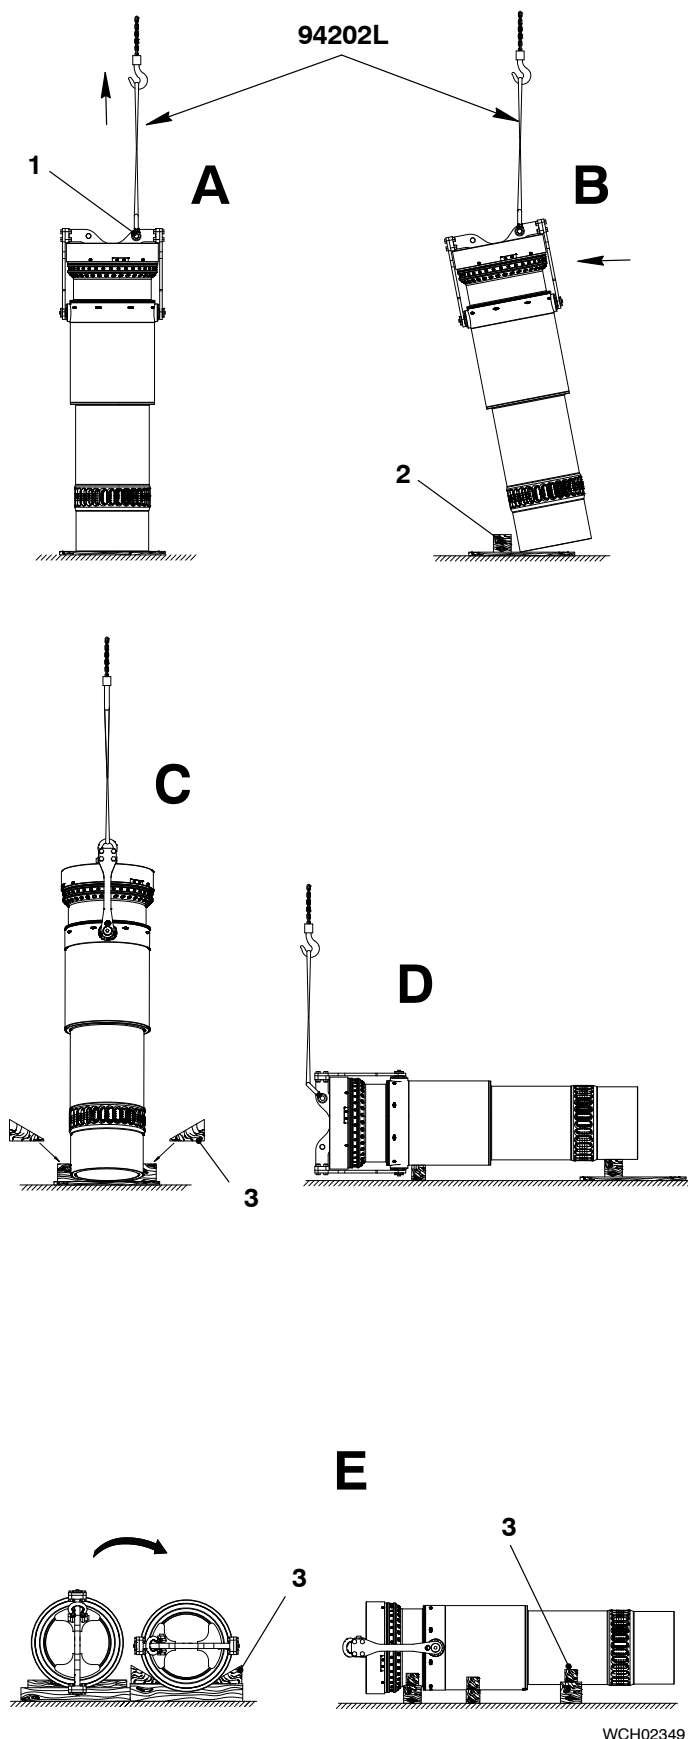

Fig. 16
- 4) Attach the shackle (1, Fig. 16) to the lifting tool (94210) in the position shown in step A.
- 5) Attach the sling (94202L) to the shackle (1) and the crane hook.
- 7) Put the wooden underlay (2) in position as shown in step B.
- 9) Put the wooden chocks (3) in position to prevent movement of the cylinder liner (see step C).
- 13) Remove the wooden chocks (3).